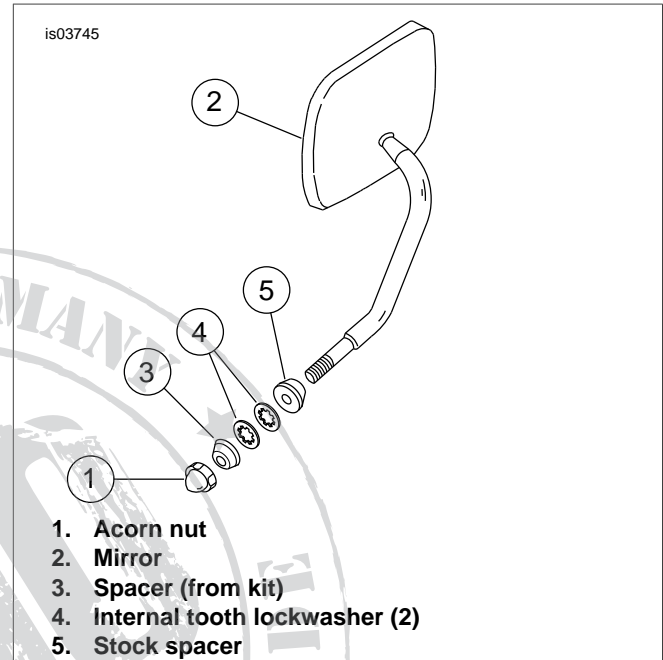

Figure 1. Attaching Mirror
3. **If directional light is mounted on upper fork bracket**, remove fork tube pinch screw from right side of upper fork bracket. (This is the screw that secures the right directional light.) See Figure 1. **If directional light is mounted on mirror**, remove directional light and mounting hardware. Retain the internal toothed lockwashers (4) and spacer (5).
4. Install acorn nut from kit to retain right mirror. If acorn nut "bottoms" without tightening add the second spacer (3) from kit in the location shown.
7. Repeat Steps 1 through 6 to relocate left directional light. See Figure 1. Use stock acorn nut and internal toothed lockwasher to mount mirror.
If directional light is mounted on upper fork bracket, perform Step 7. If directional light is mounted on mirror, refer to Figure 2 and install the directional light mount and then perform Step 7, but, use 3/8-16 x 2 inch screw from kit to attach directional light. Disregard reference to upper bracket pinch screw. See Figure 1. Install acorn nut from kit to retain right mirror. If acorn nut "bottoms" without tightening add the second spacer from kit in the location shown.